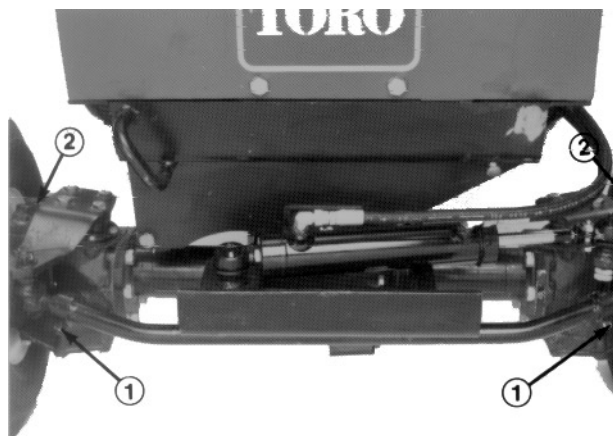

Figure 7
2. Remove a check plug from each end of the axle and make sure lubricant is up to the bottom of the hole. If the level is low, remove one of the mounting bolts above each end plug and add enough lubricant to bring the level up to the bottom of the hole (Fig. 7).